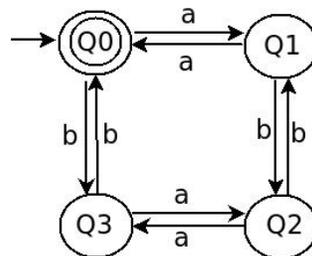

Figure 4: A finite automaton.
- What regular language is modelled by the finite automaton given in Figure 4?